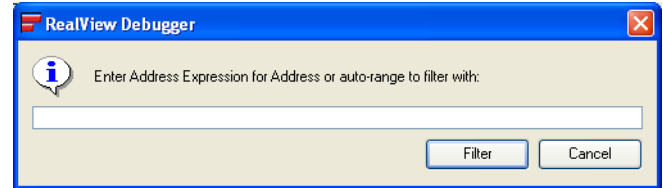

Figure 9-14 Filtering on an address expression match
1. Select **Filter on Address Expression...** from the **Filter** menu to display the Prompt dialog box. Figure 9-14 shows an example: